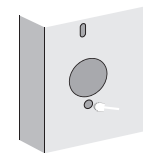

Figure 3c
- Drill 0.47" (12mm) hole through door panel as marked for lock set (Figure 3c).